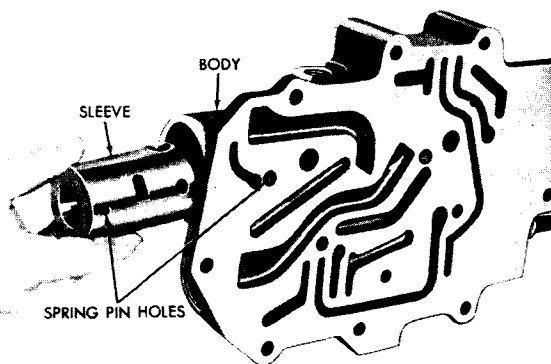

Fig. VI-4. Installing reverse shift sleeve into valve body
c. Assembly (item 1, A, foldout 14)
(1) Follow instructions in 1c (1) through (5), above.
(2) Install the reverse shift sleeve into the front of the valve body (fig. VI-4). Note the relative positions of the sleeve and valve body, and the openings in the sleeve. The spring pin holes in the body and sleeve must be aligned.
(3) Install one spring pin 23 (A, foldout 14). Drive the spring pin into valve body 16 until it seats in shift sleeve 3.
(4) Install snap ring 6 onto valve 8. Install piston 5 and remaining snap ring 4 onto valve 8.